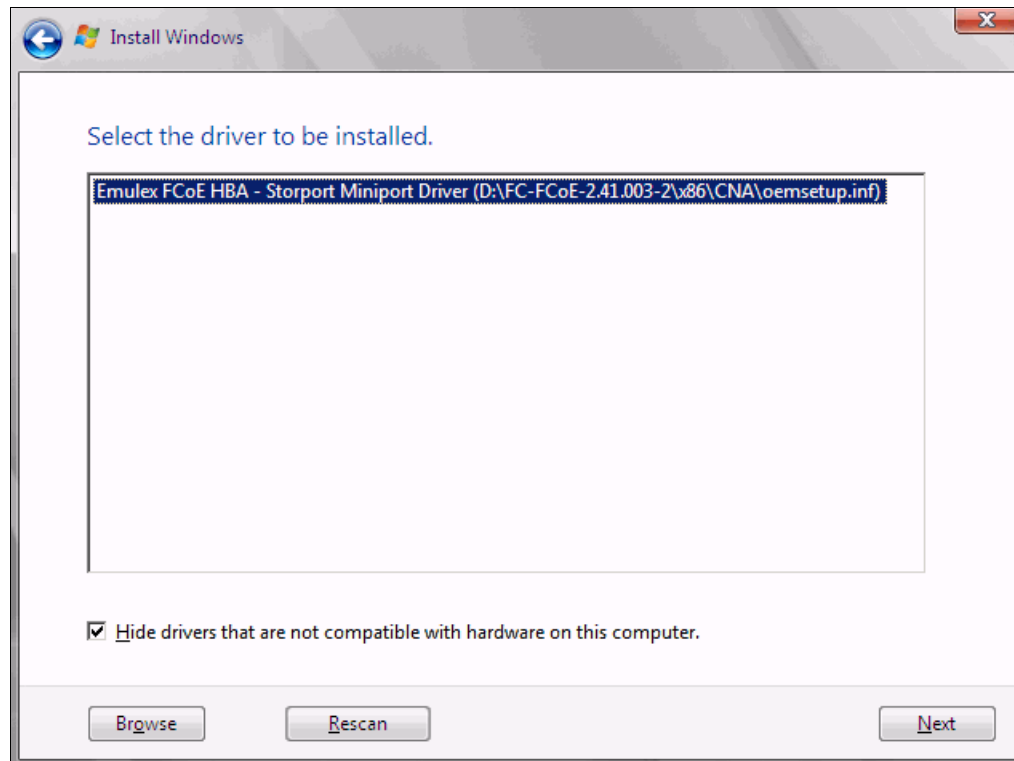

Figure 9-146 Selecting the driver to be installed
16. In the “Select the driver to be installed” panel (Figure 9-146), select the driver, and then click **Next**.